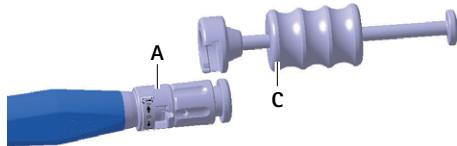

Fig. 5 Mounting the impact cylinder onto the insertion instrument
- ▶ Mount the impact cylinder C onto the insertion instrument A, see Fig. 5.
- ▶ Mount the impact cylinder B onto the insertion instrument A, see Fig. 5.